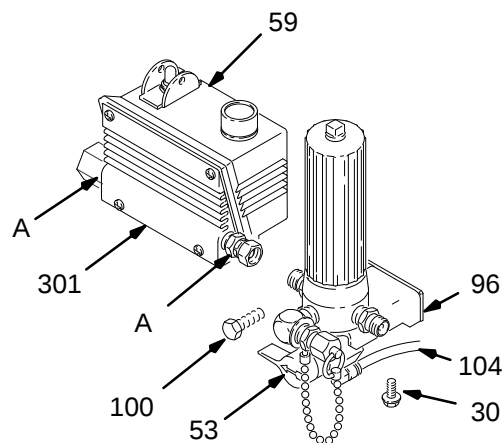

Fig. 1
2. Use two wrenches and disconnect the hose at the pressure control. Hold the fitting (A) firmly. See the **CAUTION**, below. See Fig. 1.
3. Disconnect drain hose (104) at the pressure drain valve (53). Remove screw (100) and use two wrenches to disconnect the fitting between the filter and the pressure control. Hold the fitting (A) firmly. Remove the filter with the bracket (96). Loosen the two screws (30) holding the filter to the bracket (96), but do not remove them.